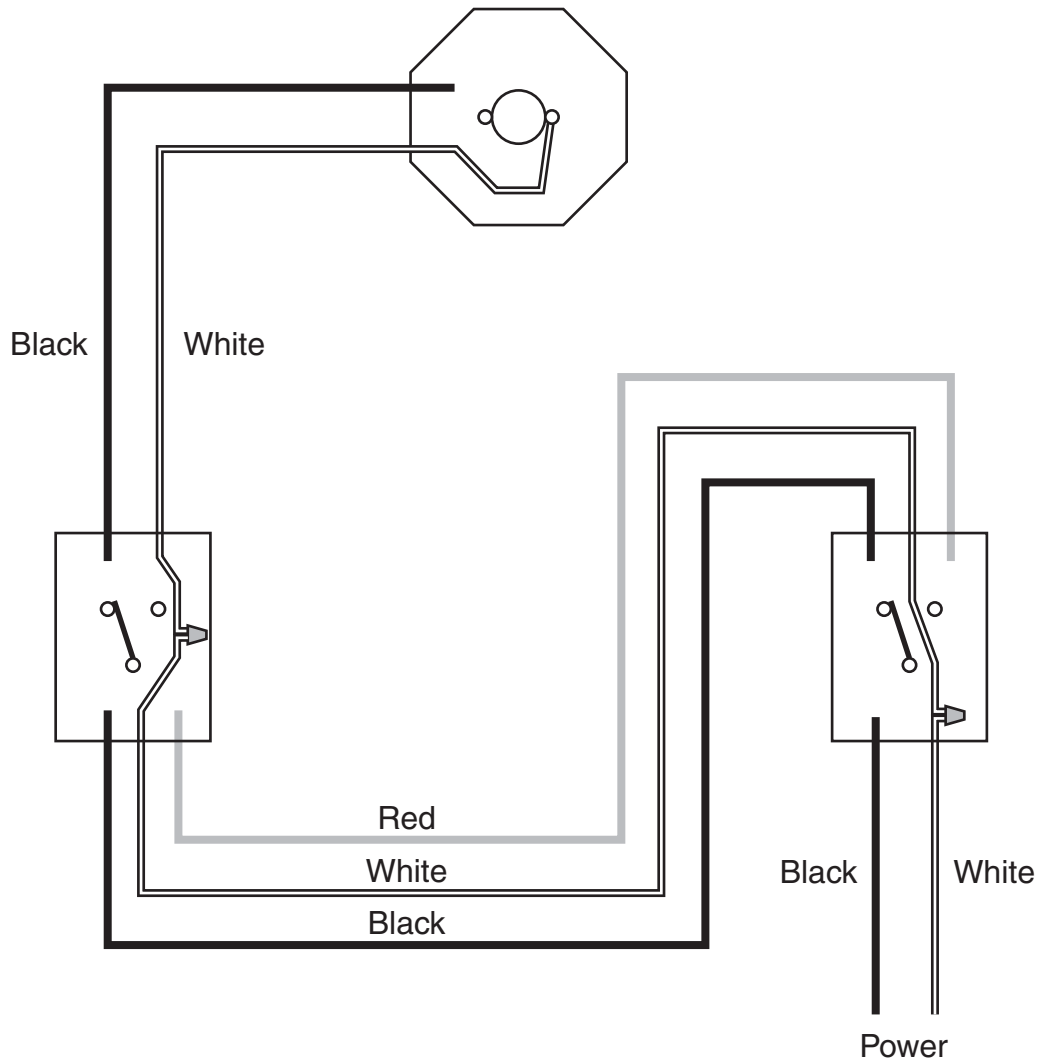

Figure 8-9 Rule 1: Connect the neutral to the light.
1. *Connect the neutral to the light.* The neutral is the white wire of the power cable from the panel box. Neutral conductors should be color-coded white, so connect the neutral conductor to the white wire in the three-conductor cable. Then connect the white wire of the three-conductor cable to the white wire in the two-conductor cable that runs from the second 3-way switch to the light. Connect the lamp to the white wire (Figure 8-9). Note that the neutral conductor is continuous from the power wire to the light. It has not been broken by a switch at any point.